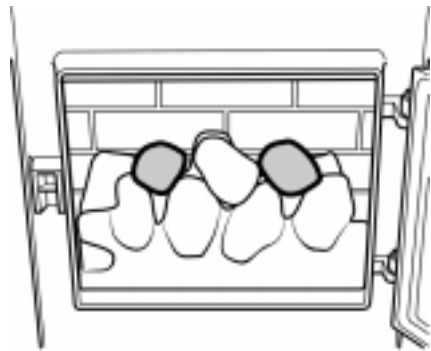

Figure 9
7. Locate the two ceramic coals identified with a number '2' as in figure 9.